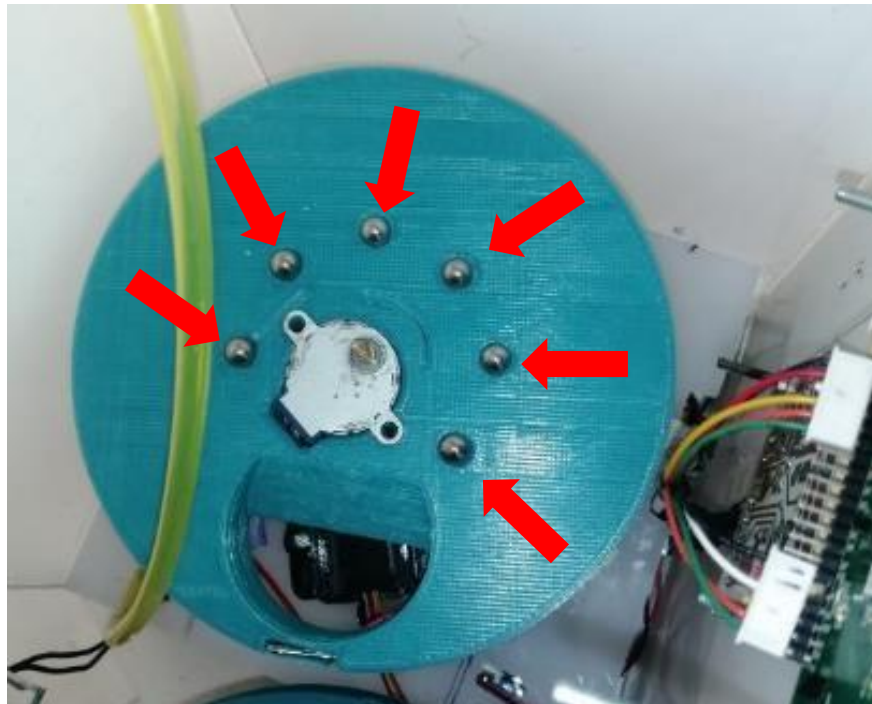

Figure 27- Bearings placed in the base
10. The six pellets are attached to the base to add greater stability (Figure 27).